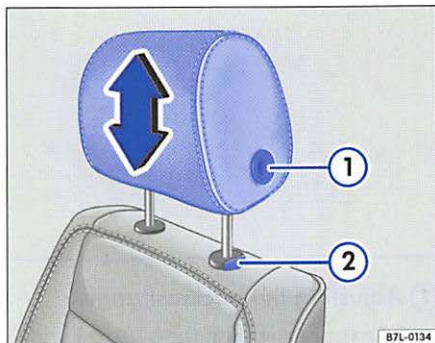

Fig. 39 Adjusting and removing the head restraints
- If you wish to push the head restraint right down, you must push and hold button ⇒ fig. 39 ① on the side of the head restraint.
- Push down the head restraint. To push the front head restraint down, you must push and hold button ⇒ fig. 39 ① on the side of the head restraint.